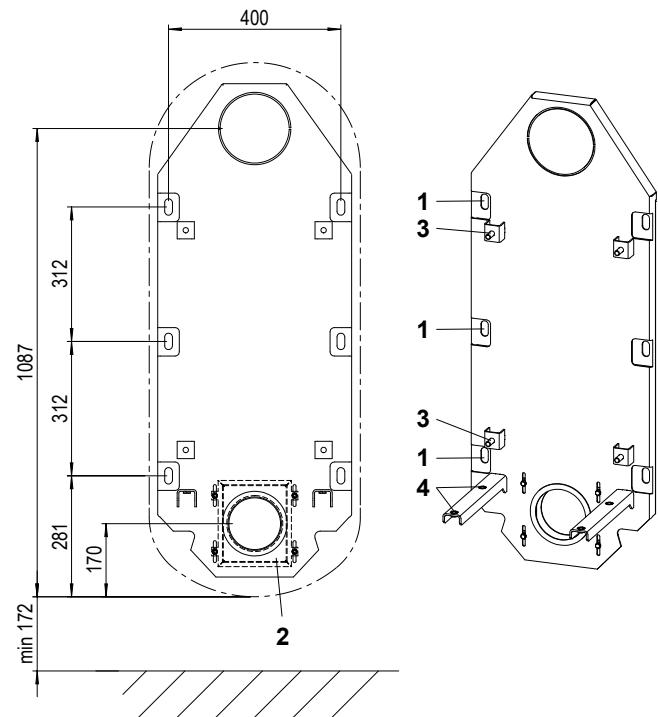

Fig. 5 Wall bracket
- The wall bracket is delivered mounted on the stove. For mounting on the wall dismount the wall bracket from the device. To do this, unscrew the 4 M12 fastening nuts and pull the wall bracket out of the device from the rear (see Fig. 5).
- Align the wall bracket as a template at the desired position on the wall with a spirit level, hold it in place and mark the positions of the 6 fastening holes (see Fig. 5).
- If needed the device can be aligned in the skids (Fig. 5) with the adjusting screws.